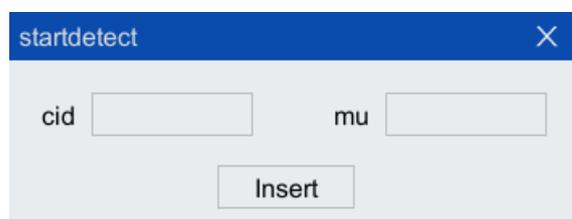

Figure 10-11 The startdetect command parameter configuration interface
Step2. Click "Insert command>Auxiliary command>startdetect", and the [startdetect] setting interface will pop up. As shown in Figure 10-11.